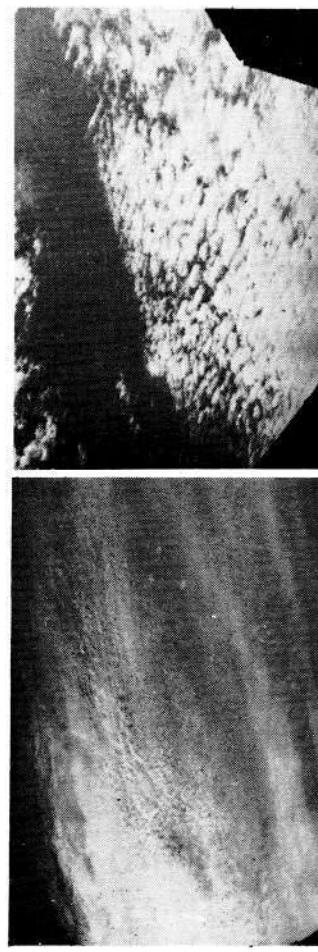

Fig. 181
5. **Alto-stratus.** Greyish white or grey veil with sun showing behind, dimly outlined as if seen through ground glass. (Fig. 181). Then follow the *Stratus* group, below the *Altos*. . . .